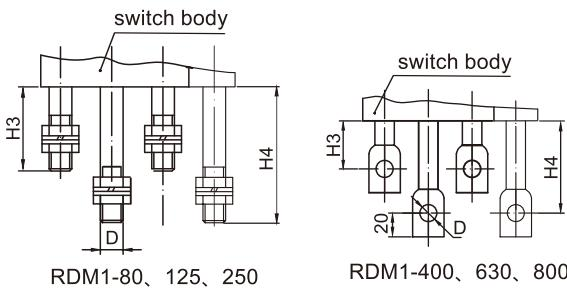
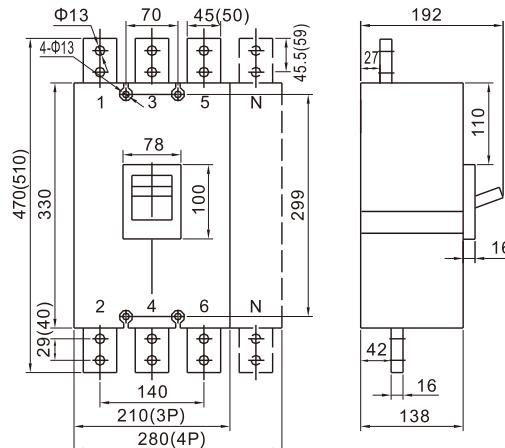

Fig 8 RDM1 Rear wiring installation dimension
Fig 12 RDM1-1250/1600 circuit breaker overall and installation dimension
RDM1-80~800A Front wiring overall and installation board hole-opening dimension, see Fig. 12, Fig. 8 and table9
6.2 Rear wiring overall dimension, see Fig 8 and Table 10.